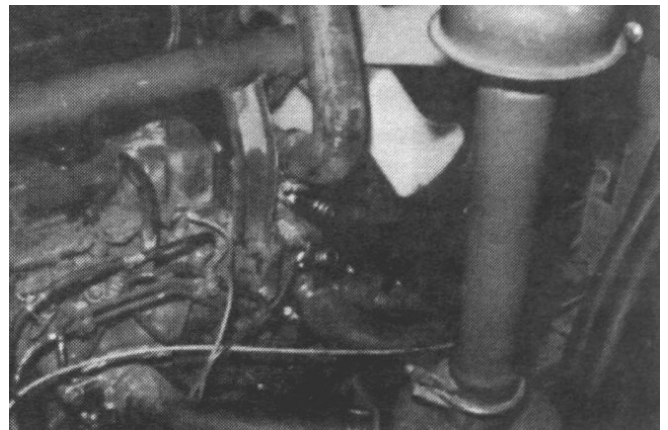

Figure 17
1. Turn straight 3/8" to 5/8" nipples into the inlet (lower port) and outlet (upper port) of the water pump. Figure 17